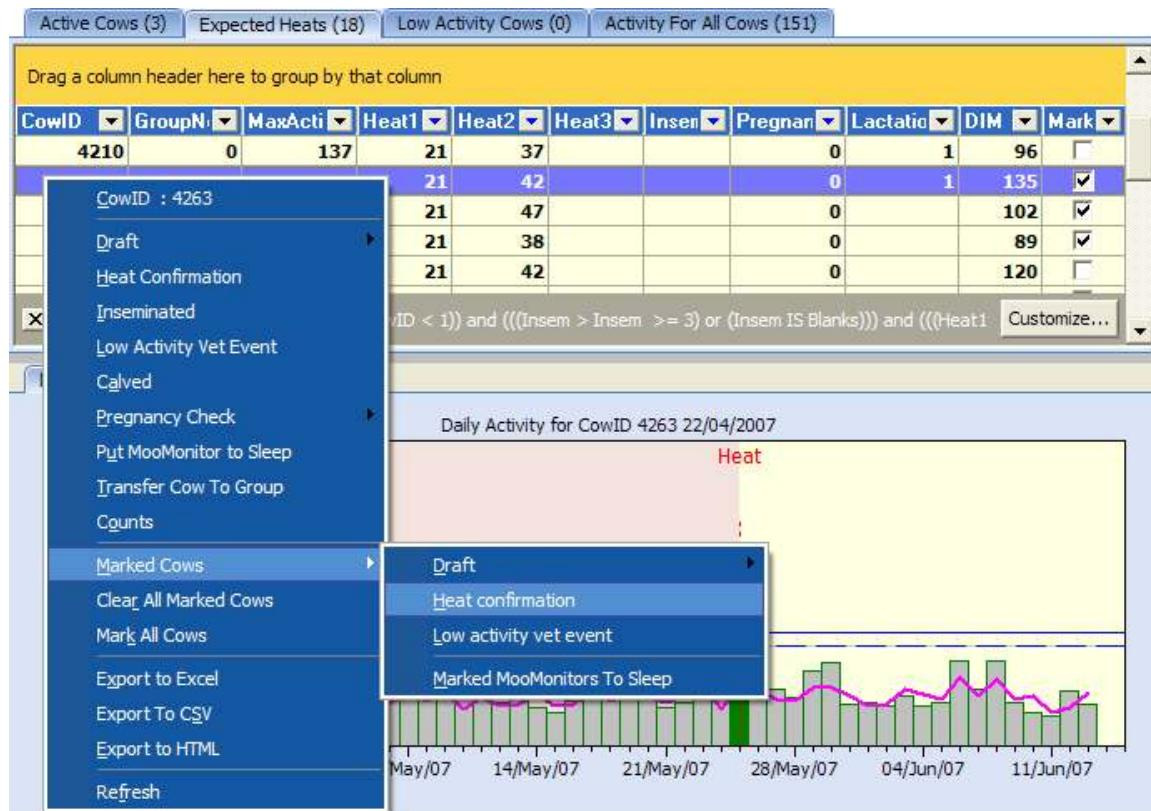

Figure 27 Right Click options.
- Right click on any CowID you have selected, go to the 'Marked Cows' option and then the 'Heat Confirmation' option as shown in Figure 27 on the next page.
f. Right click on any of the CowID's you selected and select the 'Clear All Marked Cows' option, seen in Figure 27 above, to unselect the CowID's that you marked